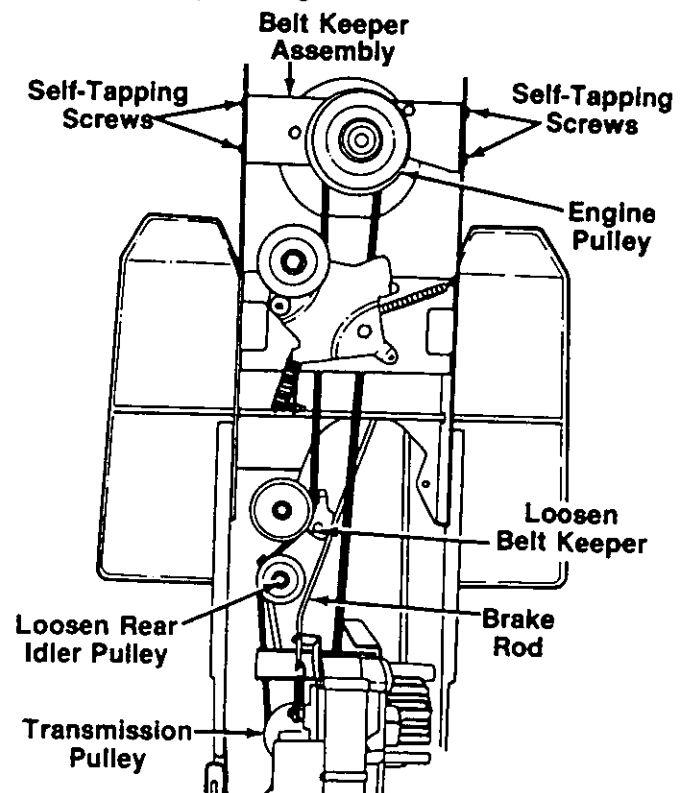

FIGURE 21.
DRIVE BELT REPLACEMENT (See figure 21)
4. Remove the four self-tapping screws which hold the belt keeper assembly to the frame at the engine pulley. Push the belt keeper assembly forward, out of the way. See figure 21.